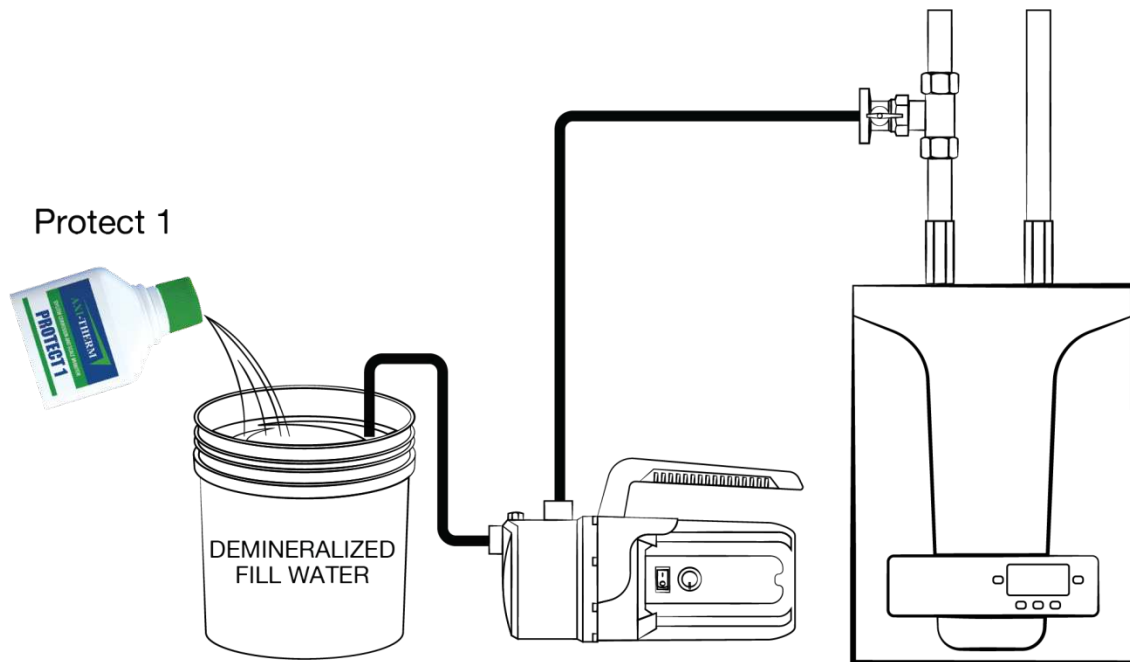

Figure 3: Add Protect 1 and fill the system
Demineralize system fill water prior to blending fluid with glycol and/or inhibitor (see Figure 3)
- 2) Connect garden hose to outlet of PuroPal-1 (Female Garden Hose) and run hose to mixing tank/reservoir (see Figure 3)